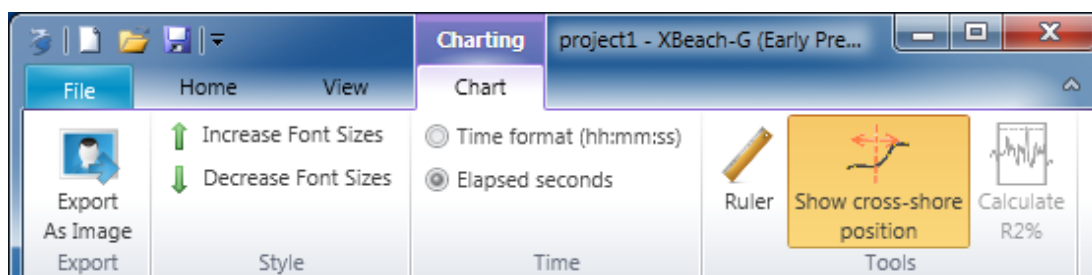

Figure 3.11: Overview of the available buttons in the Chart tab
- ◇ **Chart** - The Chart tab features various functions related to viewing and analysing data in a chart (Figure 3.11)